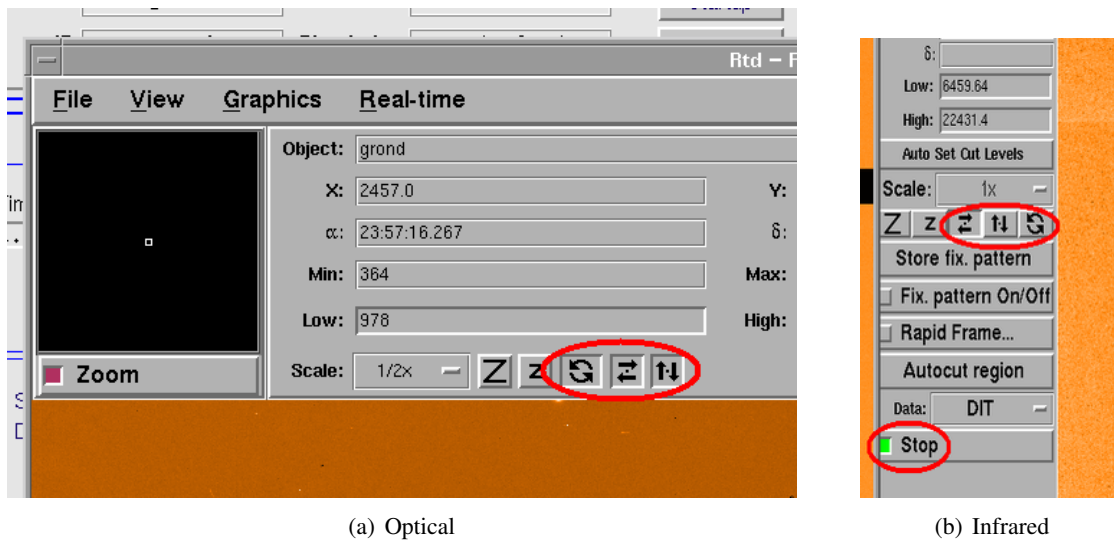

Figure 2.10: Correct sky orientation of the GROND displays. The infrared one is receiving data in real time (green checkbox).
The left column should have a green button with text `Stop` (see Fig. 2.10(b)).
- vii. Check that the image is horizontally flipped (see Fig. 2.10(b)).